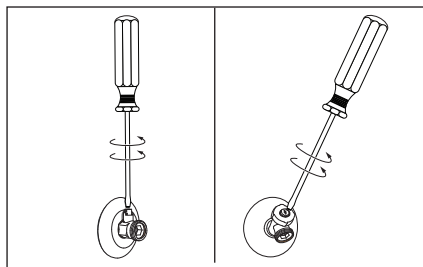

Figure 27 - Open Drain Valve
- Press the red ECO reset button. See Figure 27.